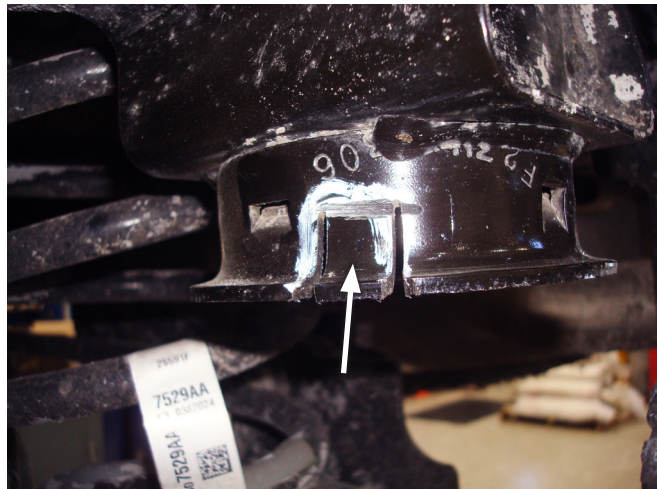

Fig. 6
5. Using a grinder with a cut off wheel or equivalent, cut out the area previously marked (Fig. 6).